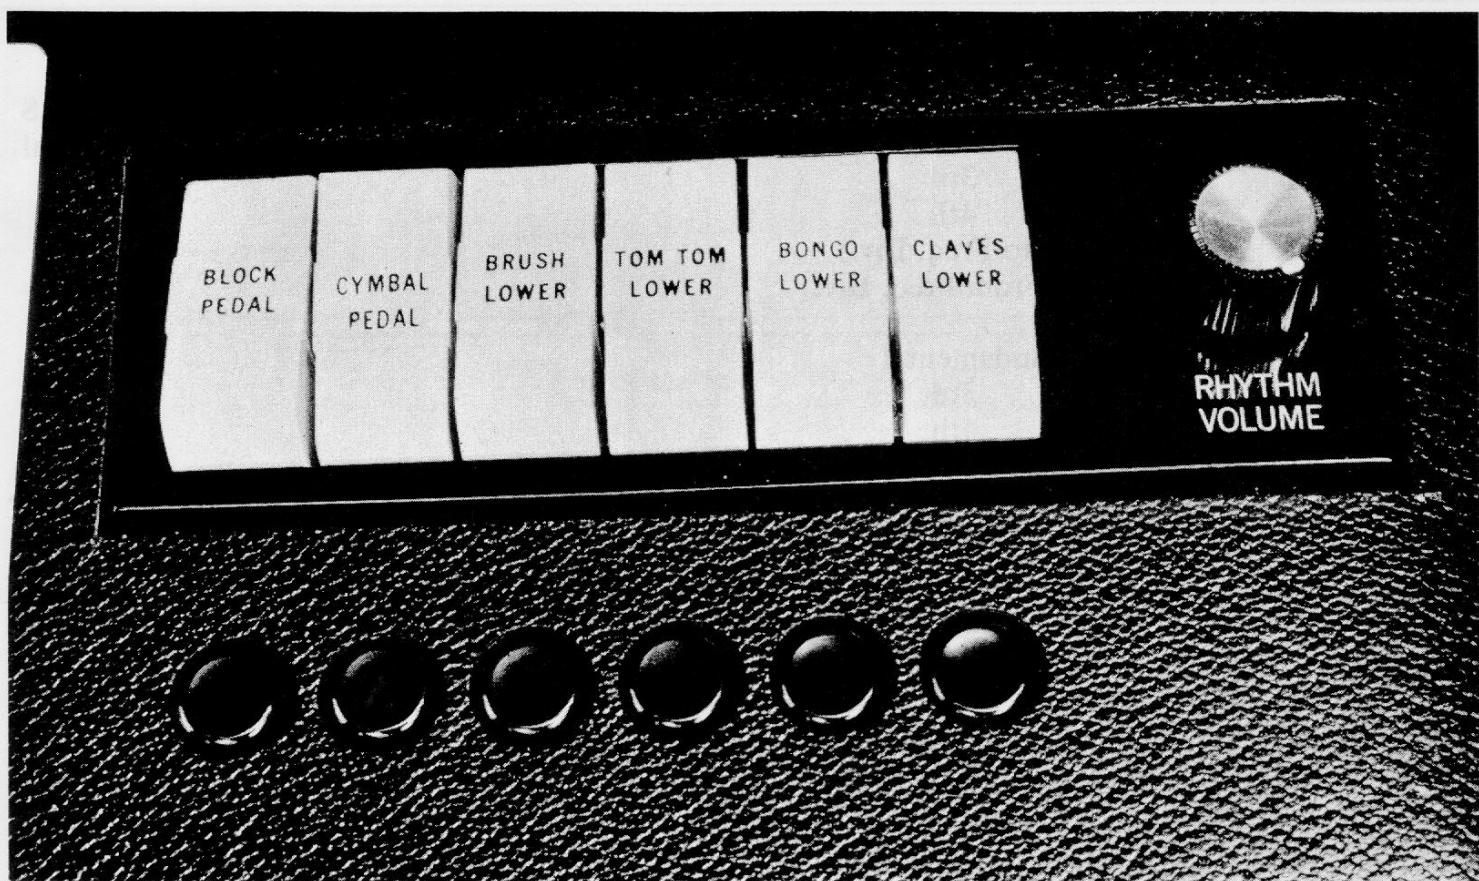

Figure 1-11. L-100-1 Six-Voice Percussion Controls
**1-18. L-100-1 SIX-VOICE PERCUSSION FEATURE (See Figure 1-11).**—